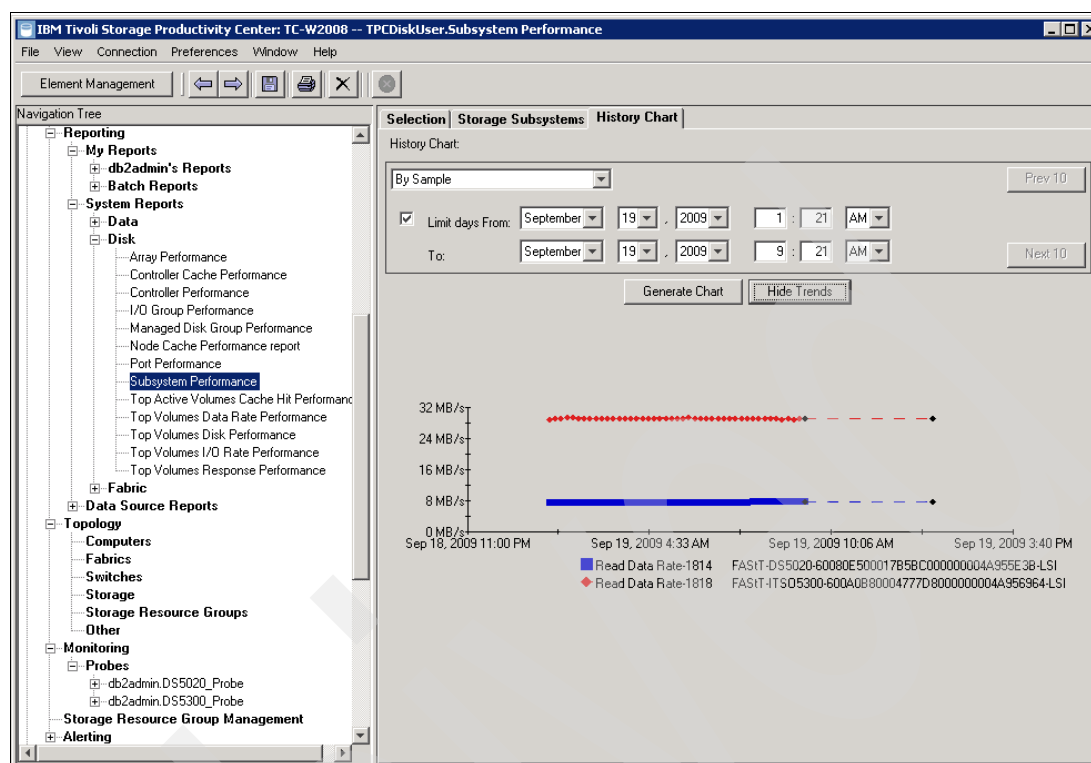

Figure 9-33 Result of historical chart
8. Here we select **History Chart** to generate the chart as shown in Figure 9-33.